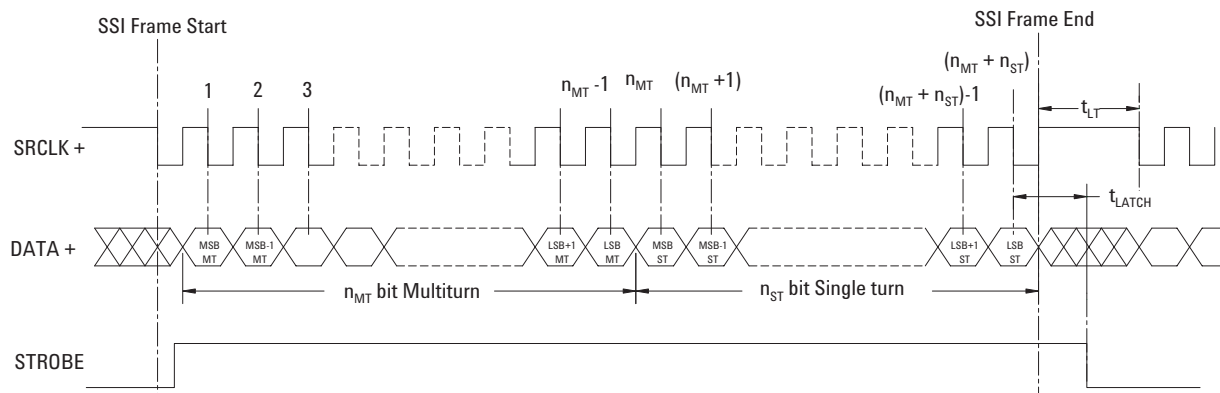

Figure 4. Timing Characteristics of STROBE, SRCLK and DATA
3. Refer to Figure 4 for timing description.